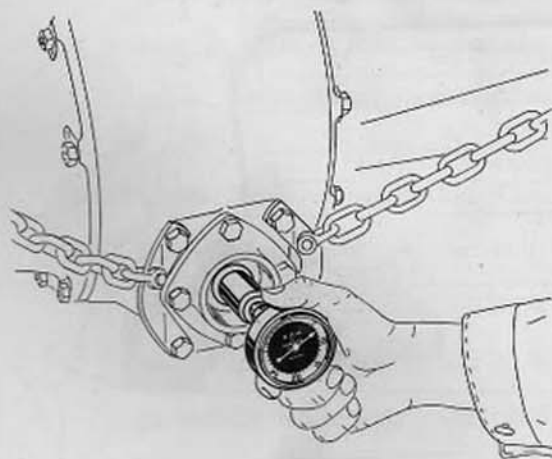

FIG. 1
2. Check the maximum engine speed as illustrated in Fig. 1. The correct speed, with the throttle control rod in last notch on the quadrant, is 2050 to 2200 R.P.M. Check at the Power Take-Off or Belt Pulley and the following table indicates the engine speed: